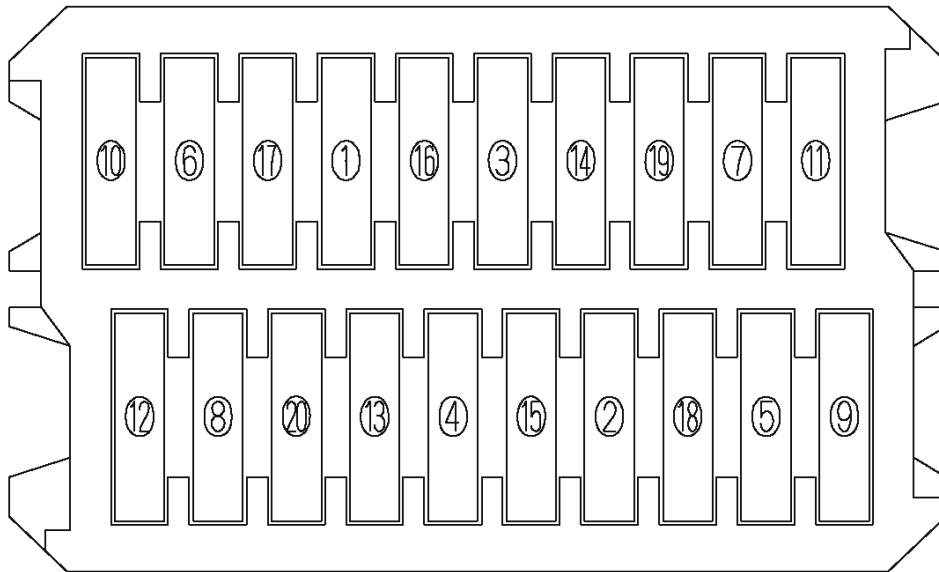

Figure 5.3 Fraction packaging
- (1) Put the conductivity bag into the multi-box, in addition put the cushion (lower) into the bag.
- (2) Put unitary packaging (FCELL) in the cushion (lower).
- For less than 20 HDDs, insert the HDDs starting from the slot with the smallest number in Figure 5.3. Then place the empty FCELL in the empty slot.